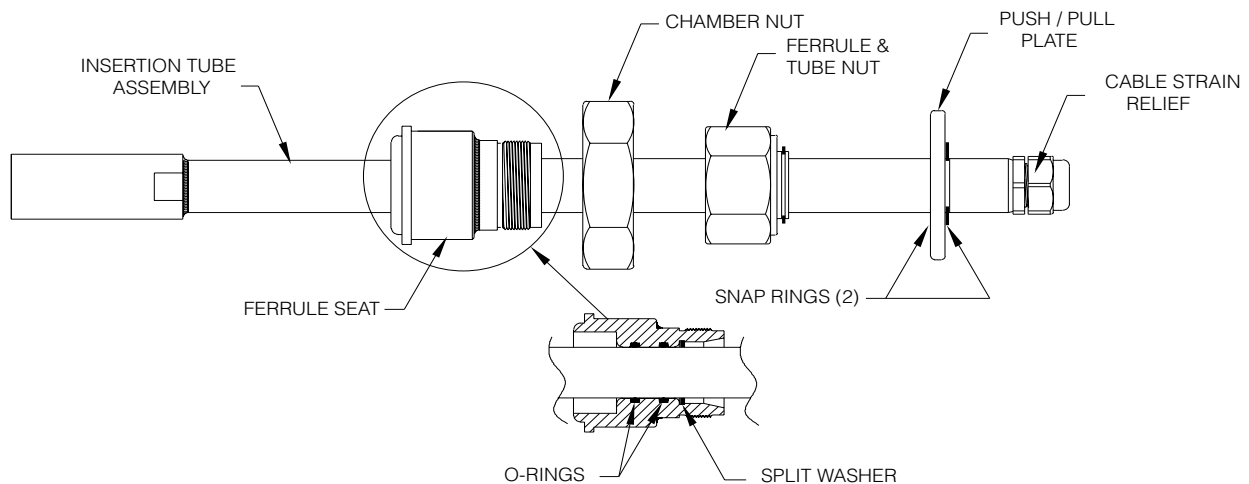

Figure 23. Replacing O-Ring Seals and Split Washer in the Ferrule Seat
2. Referring to Figure 23, remove the cable strain relief fitting from the insertion tube.